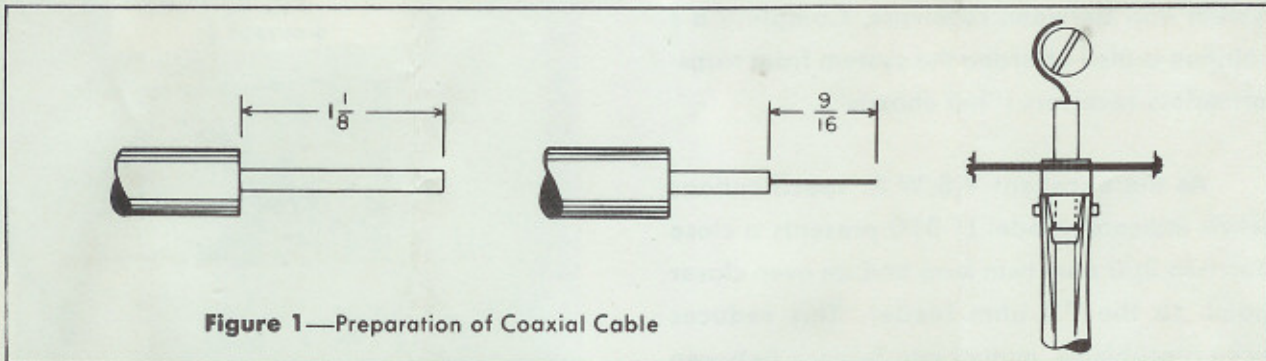

Figure 1—Preparation of Coaxial Cable
1. Connect unit into feeder line. (See Figures 1 and 2)